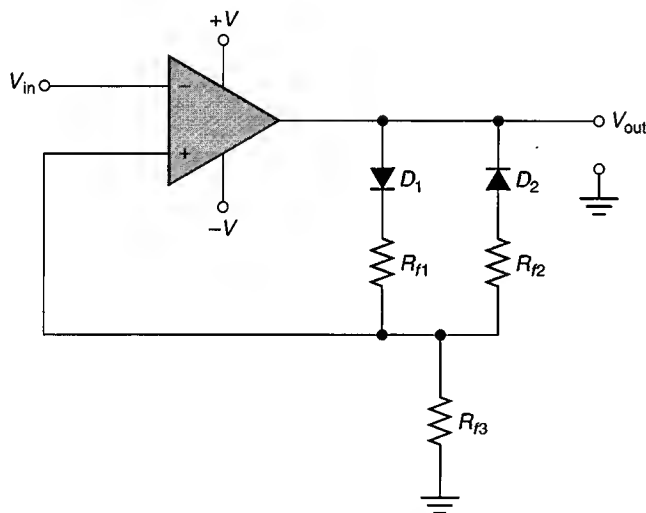

FIGURE 19.30 An inverting Schmitt trigger designed for unequal (asymmetrical) UTP and LTP values.
The inverting Schmitt trigger can be modified as shown in Figure 19.30 to allow different UTP and LTP values. In this circuit, the UTP is determined by D_1 , R_{f1} , and R_{f3} . The LTP is determined by D_2 , R_{f2} , and R_{f3} . For example, when the op-amp output is *positive*, D_1 is forward biased, and the UTP voltage is found as
8. Explain the operation of the inverting Schmitt trigger in Figure 19.30.